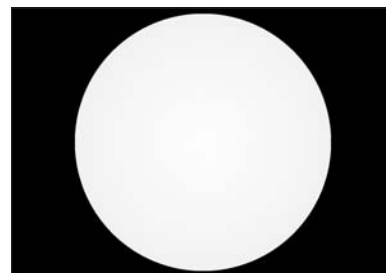

Figure 45
36. Open the field diaphragm until the iris is just barely no longer visible (figure 45).